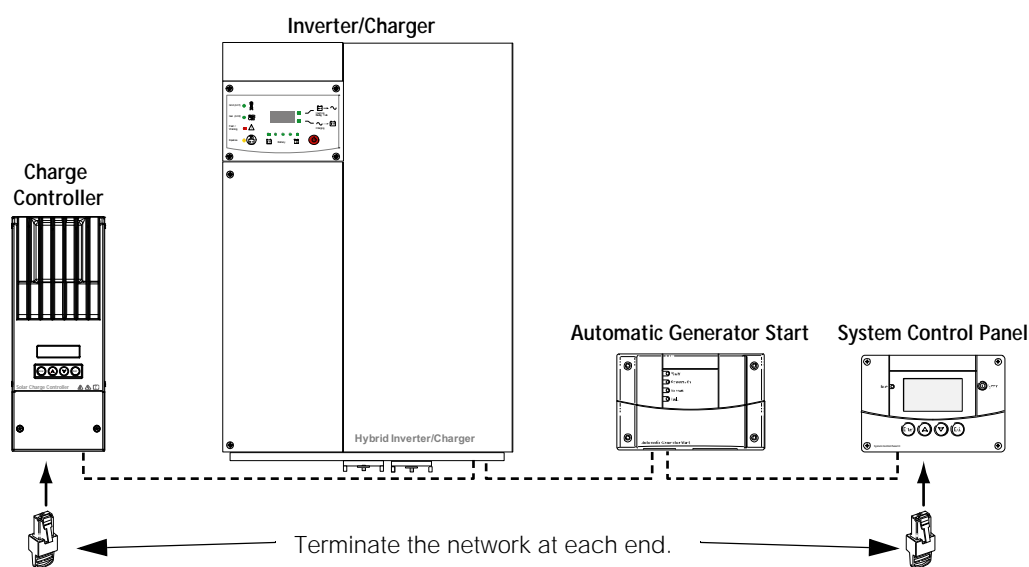

Figure 2-7 Xantrex Xanbus Network Layout
Each device on the network is linked with separate lengths of Xantrex Xanbus cable, as shown in Figure 2-7.
5. Insert a terminator into the open network port of the Xantrex Xanbus-enabled device at each end of the network. See Figure 2-7.
Connect AC Sync cables in the same daisy-chain layout as Xantrex Xanbus network cables (see Figure 2-7). Network terminators are not required for AC Sync connections.